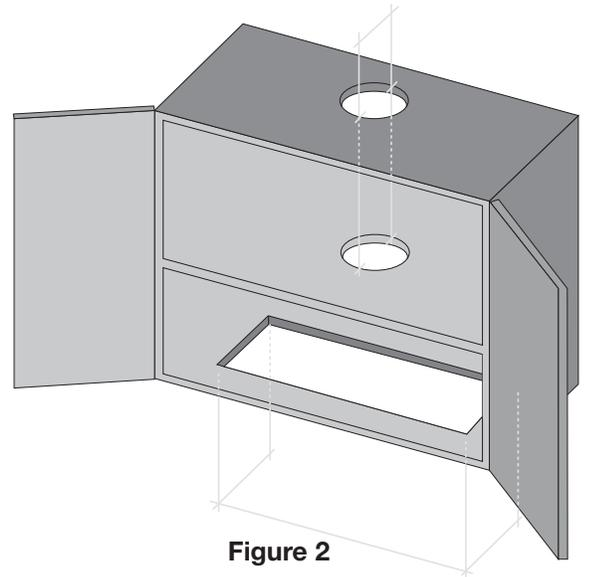

Figure 2
- Measure and cut a hole in the top of cabinet to fit the duct tube (see Figure 2).